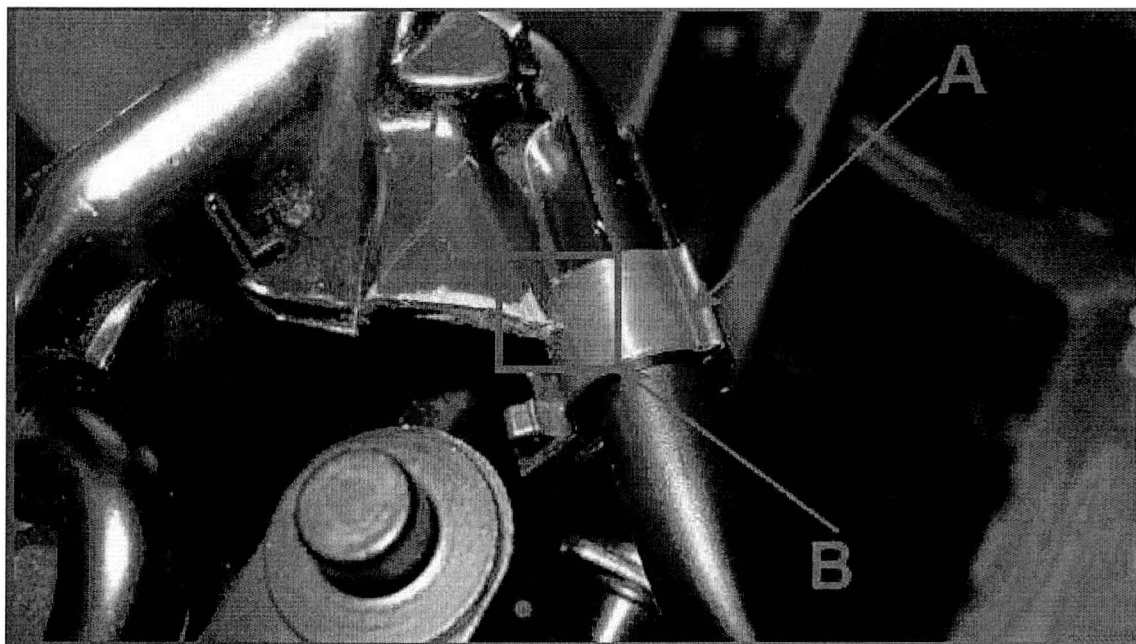

Figure 7
6. Referring to Figure 7 (point A) - Fit the left hand collar (3W0 887 707) onto the 'D' loop and 'click' close the retaining clip to secure the collar around the 'D' loop